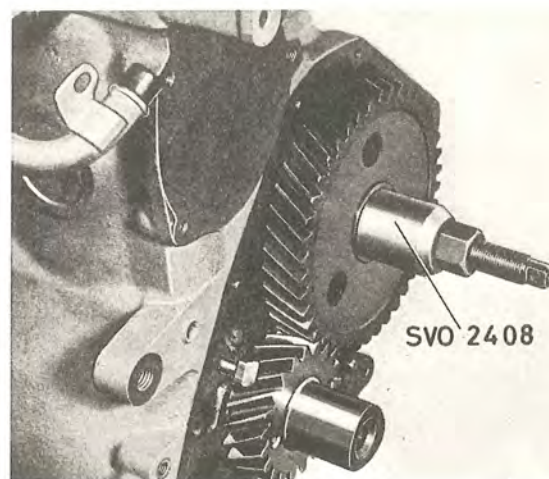
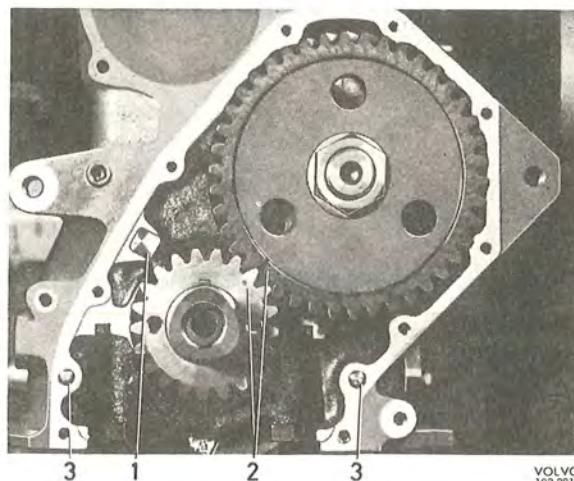

Fig. 2-37. Fitting camshaft gear
Fig. 2-38. Markings on timing gears
Screw out the oil nozzle, blow it clean and refit it, see Fig. 2-38. The gears are lubricated from this nozzle.
7. Refit the camshaft gear with tool SVO 2408, see Fig. 2-37. Both gear wheels should take up the correct position relative to each other, see Fig. 2-38. When the timing gear drive markings are opposite each other, then the piston for No. 6 cylinder is at top dead centre, firing position. Do not press the camshaft backwards so that the sealing washer at the rear end loosens. Fit the nut and tighten it to a torque of 13—15 kgm (94—108 lb.ft.).